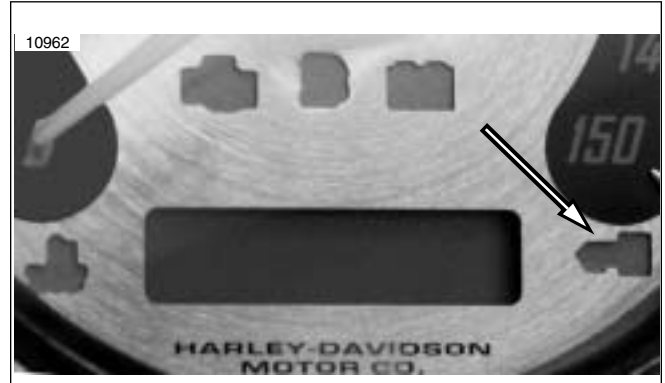

Figure 8-44. Security Lamp
See Figure 8-44. When ignition key is turned ON, security lamp will illuminate for approximately 4 seconds and turn OFF.
1. See Figure 8-44. After lamp turns OFF after being illuminated for first 4-second period, one of three events may occur: